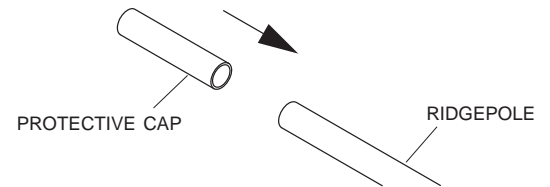

Figure 42
3) See Figure 42. Place rubber cups on ends of ridge pole.